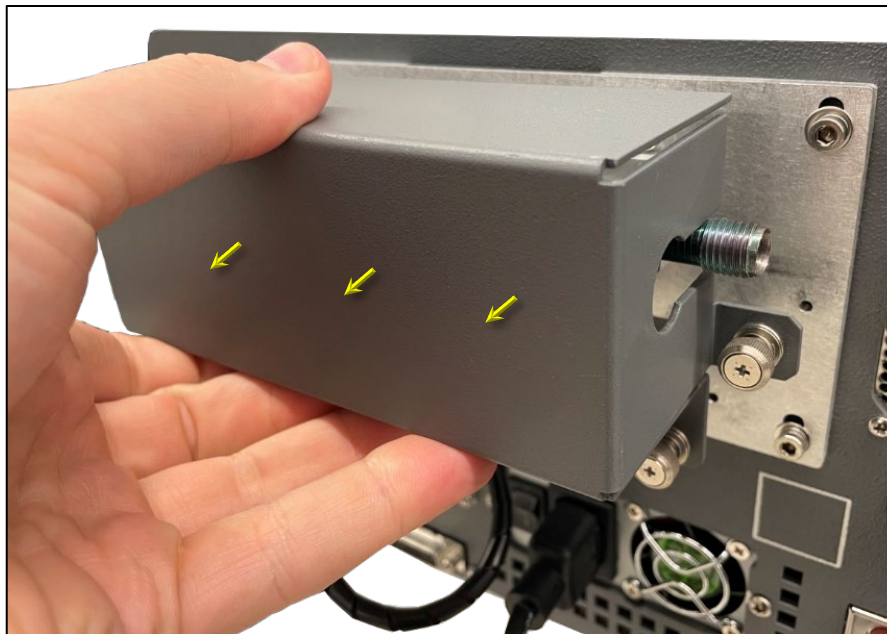

Figure 21: Filter Housing Removal
- Loosen (but do not remove) the two 2mm hex head screws that clamp the **Sliding Swagelok Mounting Block** to the main mounting plate (see Figure 21).